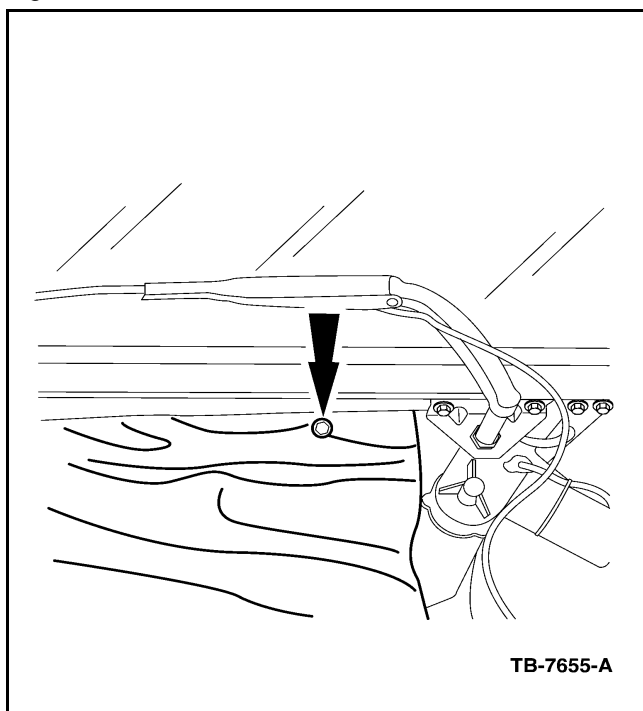

Figure 5 - Article 03-18-4
9. Hook the splash shield over the passenger side brake fluid reservoir bolt, using the locator hole (Figure 5).